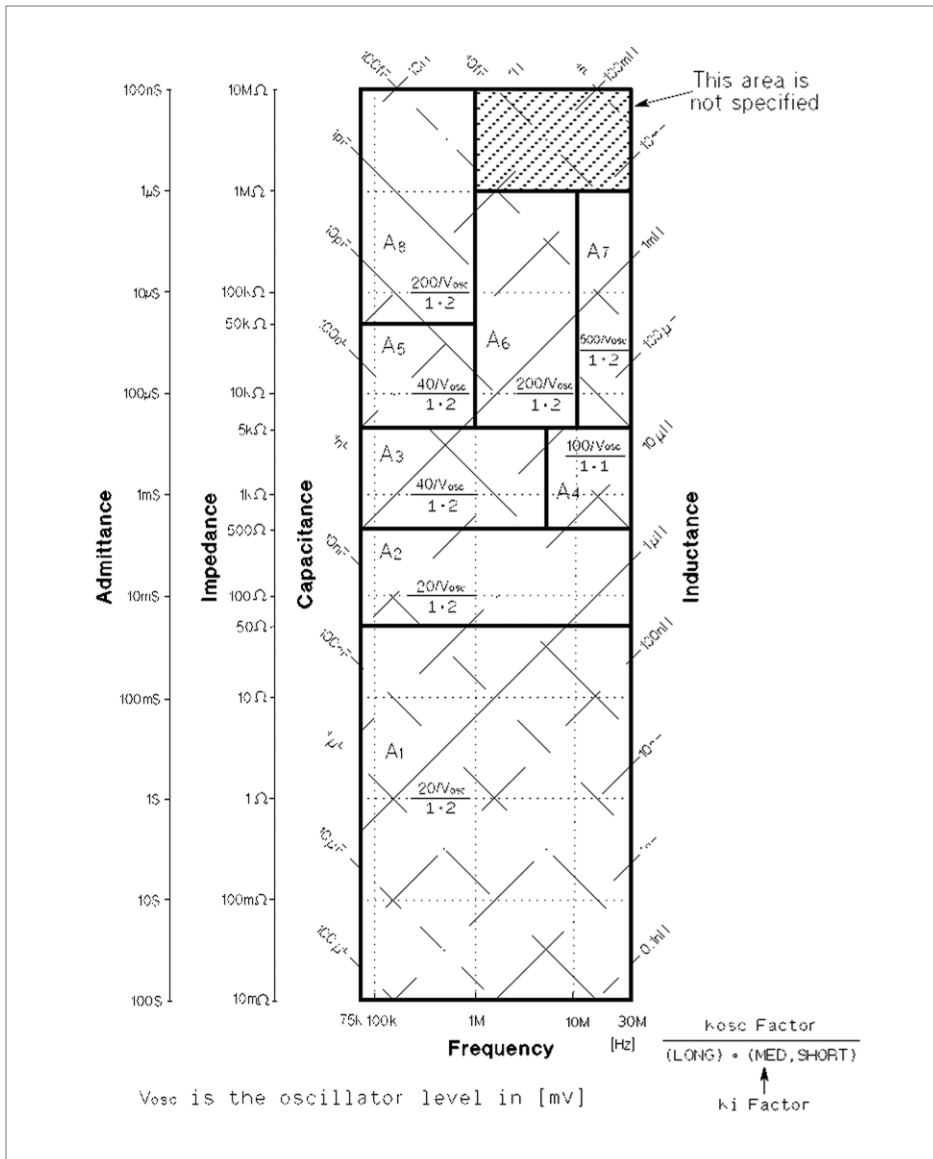
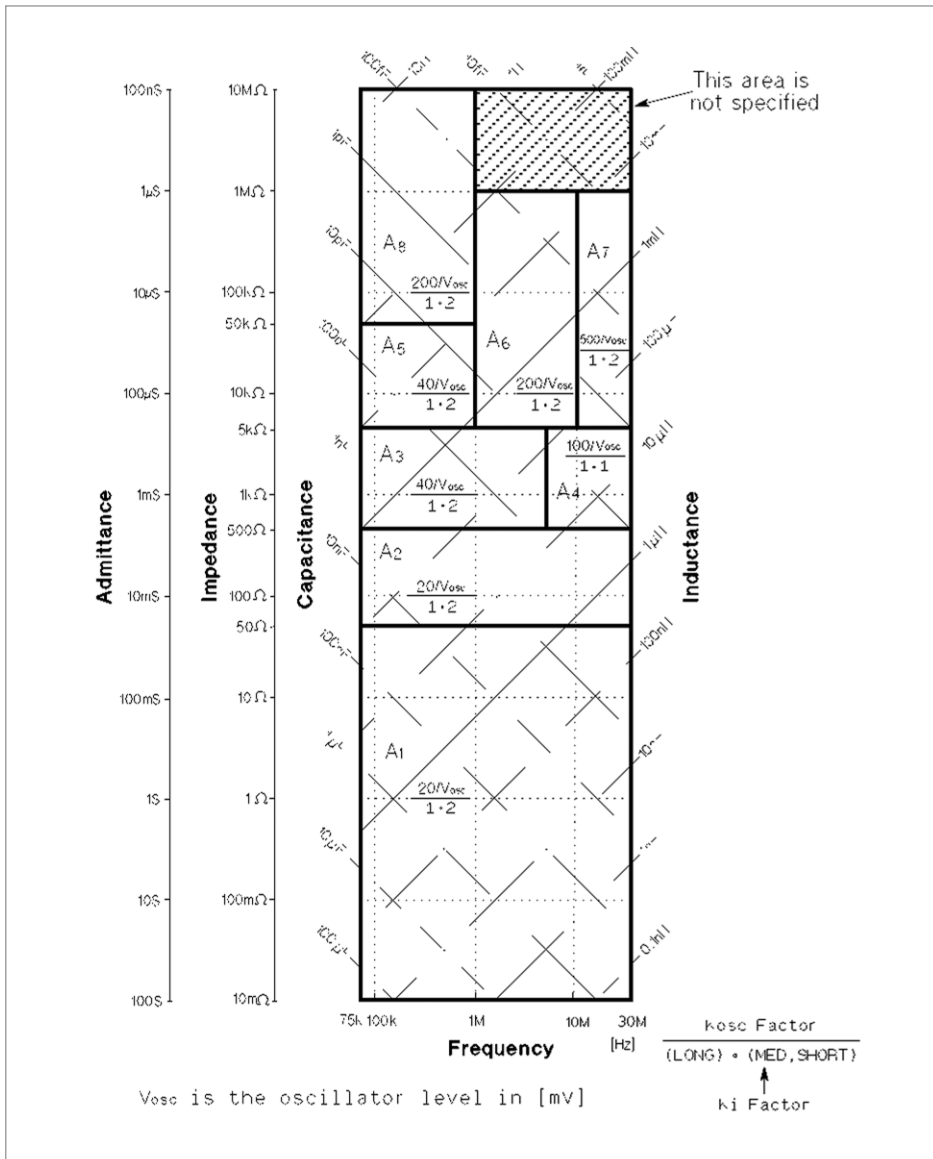

Figure 1-3. Accuracy equations, K_i factor, and K_{osc} factor (test signal level $\leq 1 V_{rms}$)
Figure 1-4. Accuracy equations and K_i factor (test signal level > 1 V_{rms})
A_n = Basic accuracy equation given from the A_1 to A_{16} shown in Table 1-1. The applicable frequency range and impedance range of equations A_1 to A_{16} are shown in Figure 1-3 and Figure 1-4. (Refer to *Basic Accuracy Equations* on page 7.)
1. Determine A_n equation from Figure 1-3 or Figure 1-4. In both charts, boundary line belongs to the better accuracy area.
When the oscillator level is $\leq 1 V_{rms}$, determine A_n to be applied, value of K_j and value of K_{osc} from the Figure 1-3. If the determined $K_{osc} \leq 1$, then round up K_{osc} to 1.
When the oscillator level is $> 1 V_{rms}$, determine A_n to be applied and value of K_j from the Figure 1-4.
3. Choose an accuracy chart from Figure 1-3 and Figure 1-4. The oscillator level is 1 V_{rms}, then Figure 1-3 is chosen for this measurement.
4. Find the frequency point of f_m (25.2 MHz) along the X axis in Figure 1-3. Both axes are in log format. Interpolation may be required.
5. Find the impedance point of Z_m (35 Ω) along the Y axis in Figure 1-3 determined in step 2. Both axes are in log format. Interpolation may be required.